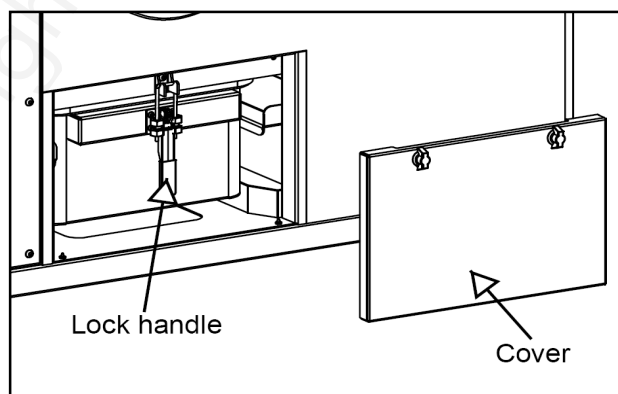

Figure 14
As shown in figure 14, move away the cover, and pull out the dust box to empty the dust. Simply dump it out or use a vacuum dust collector to empty the box. Clean the spill over dust in the cabinet at the same time.
6.2 Clean dust box (figure 14)